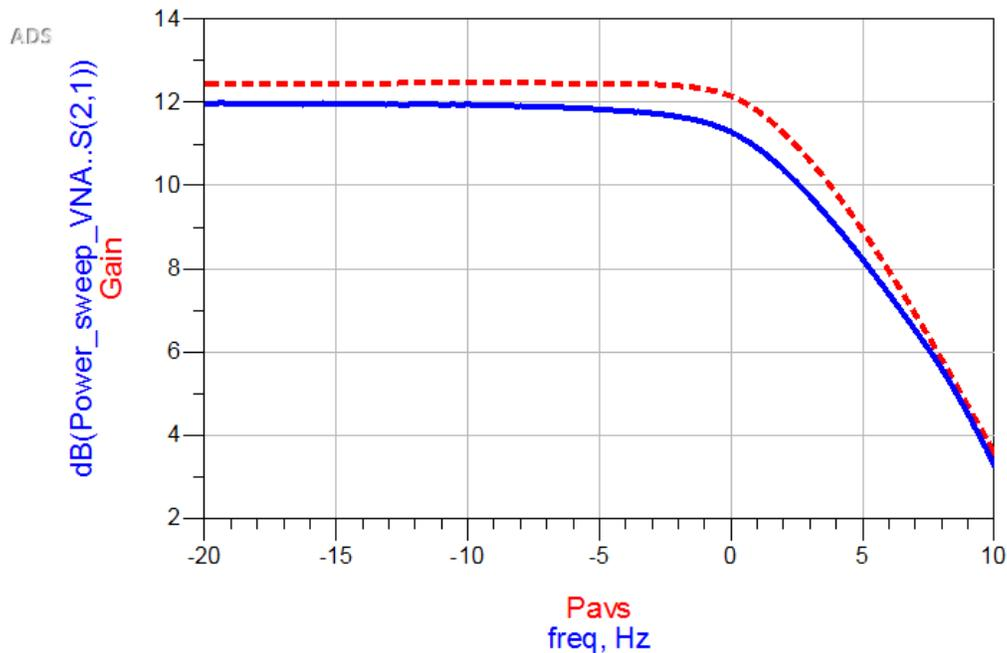

Figure 11: Gain Comparison Between Circuit Model Simulation (Red Dot) and Power Sweep Measurement (Blue line)
3. After the simulation, plot Gain from VNA power sweep measurement and circuit model HB simulation on the same graph and compare. Note that you need to choose the correct dataset from the drop down menu. Your plot should be similar to Figure 11.